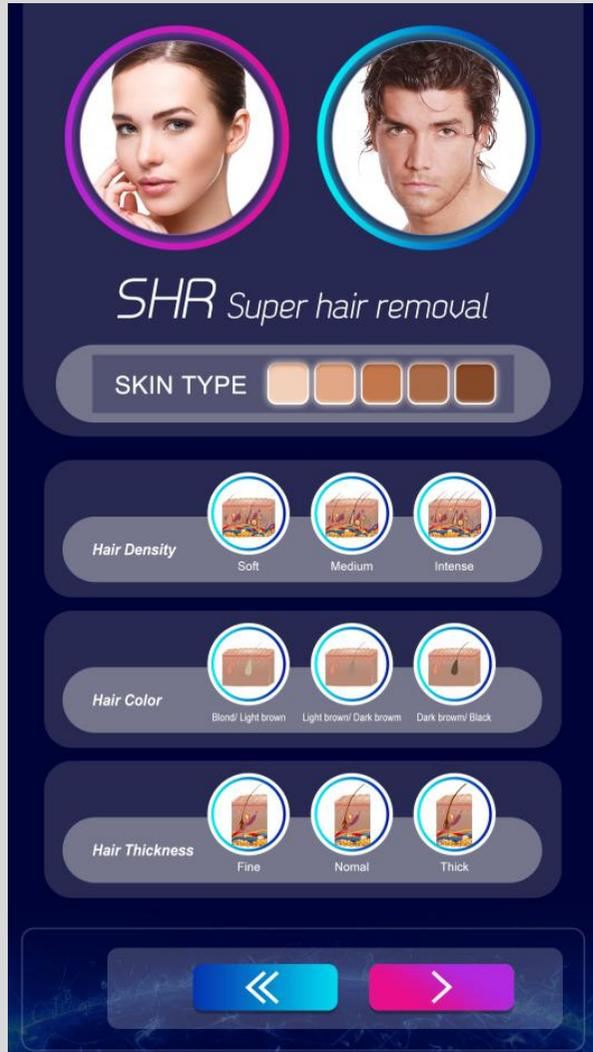

Figure 3
2. Choose treatment model(Figure 2). Treatment model description: SHR for hair removal , OPT for different 5 kinds functions. Choose SHR enter into (Figure 3)
3. SHR hair removal operation screen. (Figure 3)